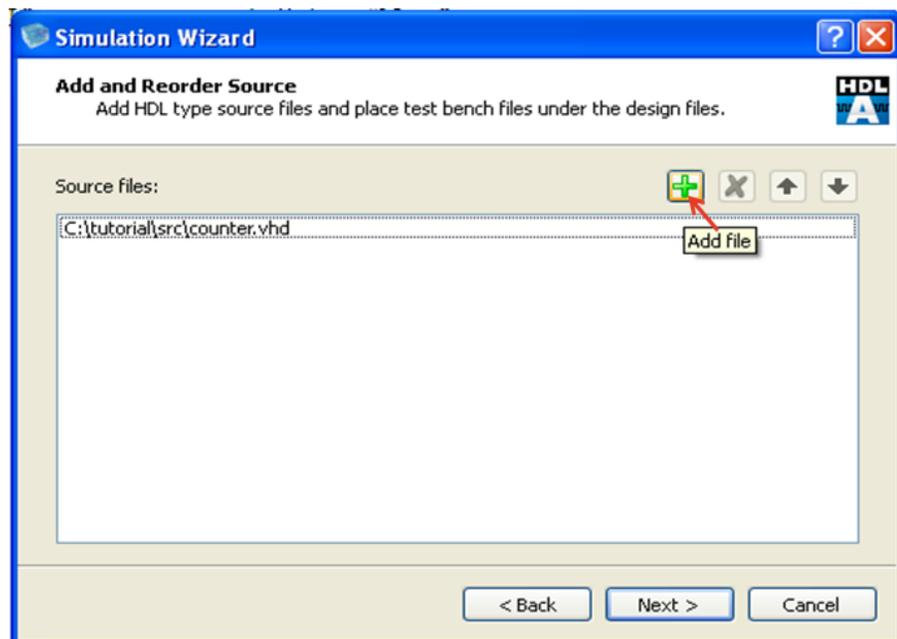

Figure 10-5 : Auto added RTL design Files
3. All the RTL design files in the iCECube2 project would be automatically added under the source files section as shown in Figure 10-5. Select “+” icon to add “*count_tb.vhd*” test bench file.